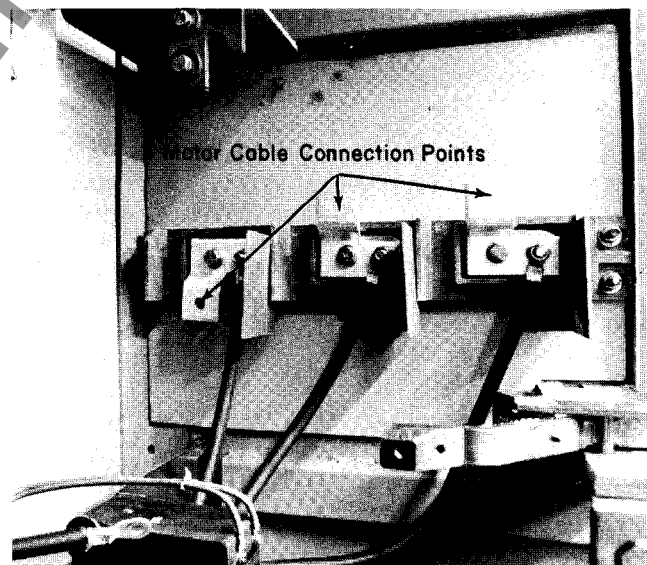

Fig. 62. Motor termination points for upper starter.
Motor termination points for the lower starter are located on the left sidewall. See Fig. 61. Terminations for the upper starter are on the right sidewall. See Fig. 62. Pull the cables and connect to the respective termination points.
4. Connections may be made to the terminals on the right sidewall, from either the top or bottom of the compartment (Fig. 62).